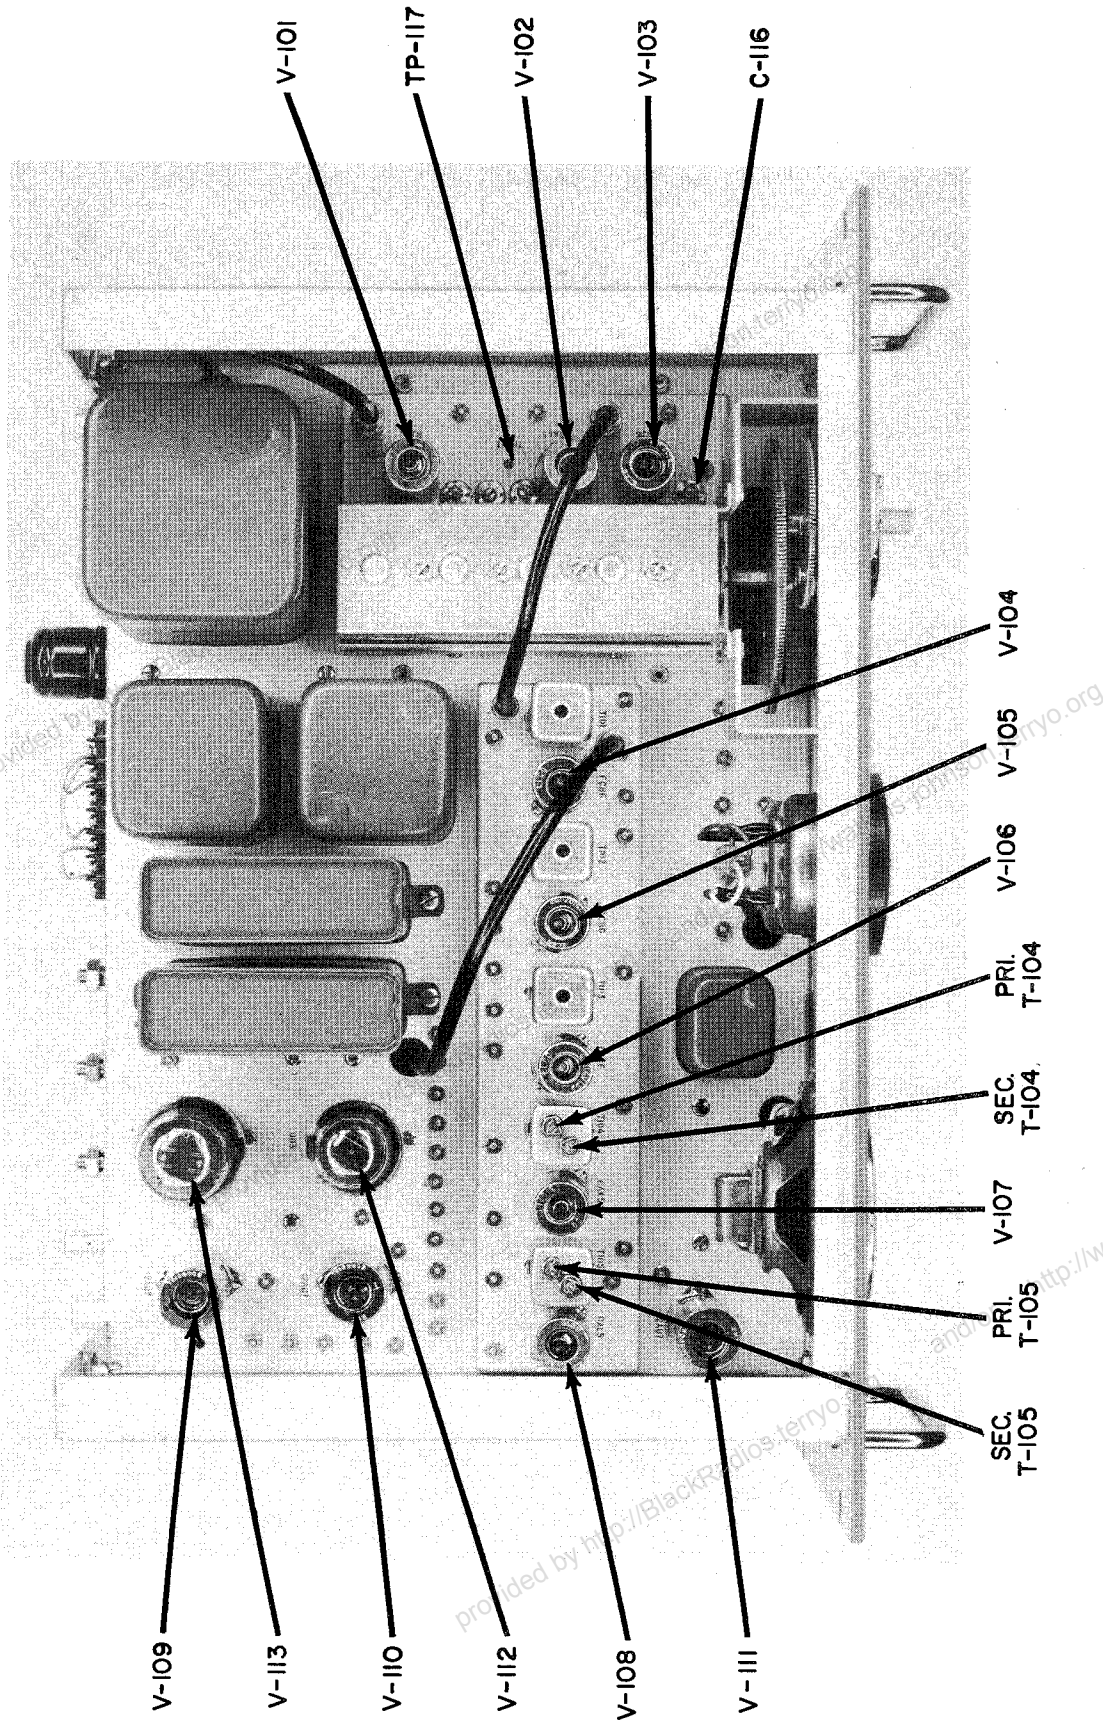

Fig. 5. Model 167 Receiver, Top View
- (5) Detune the primary slug (see Fig. 5) of T-104 counterclockwise against the stop.
- (6) Increase the signal generator output to produce approximately the same value on the VTVM as in step 4, above.
- (7) Adjust the secondary slug (see Fig. 5) of T-104 for a maximum reading on the VTVM.
- (8) Adjust the primary slug of T-104 for maximum reading, keeping the signal generator output adjusted for the same value on the VTVM as in step 4, above. DO NOT readjust the secondary for a maximum, as this will result in improper adjustment.
- (6) Tune the secondary of T-105 (see Fig. 5) to zero output, then counterclockwise until the VTVM shows a reading of 0.5 volt.
- (7) Turn the primary of T-105 (see Fig. 5) to give a maximum reading on the VTVM.
- (8) Retune the secondary to produce a zero reading on the VTVM.
- (9) Detune the signal generator above and below 21.4 mc to produce a maximum positive and negative output. These voltages should be equal and have a magnitude of approximately ± 8 v.d.c. Minor adjustment of the primary of T-105 will cause the two peak voltages to become exactly equal.
If a tube has been replaced and an error is noted, it may be corrected by adjustment of C-116 (see Fig. 5). This adjustment should be made with a signal generator of high accuracy or a
6. R. F. Amplifier Alignment. The bandpass circuit between the R. F. amplifier and the mixer has primary, secondary, and coupling adjustments. Proper adjustment requires that a sweep generator be connected to the antenna receptacle, and an oscilloscope to the small glass insulated feed-through terminal, TP-117, on the top of the R. F. unit (see Fig. 5). The dial and the sweep generator should be set to the following frequency and the response adjusted for a flat top with maximum gain.